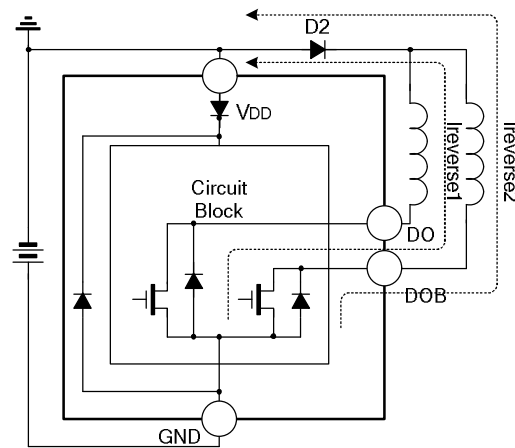

Fig.3 Reverse voltage state
3. SD1579 has built-in reverse protection diodes, so D1 is no need; If you increase the D1 can better protect the chips, as shown in Figure 3; it should be noted that care should to taken to the two coils current when power voltage reversed, if $2 * V_o * I_{load} > IC's$ power consumption, it may cause damage to IC;